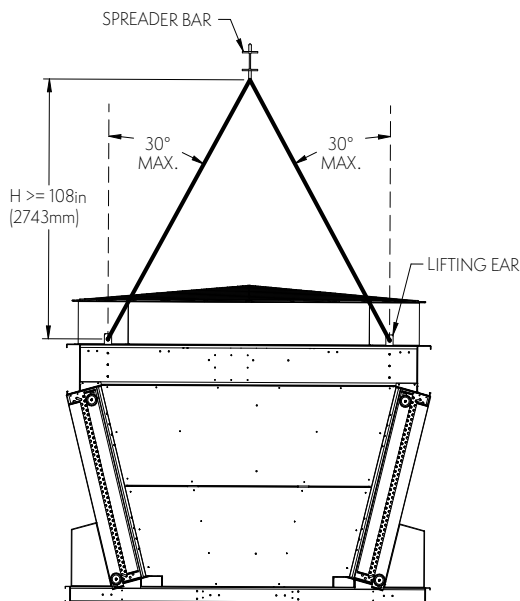
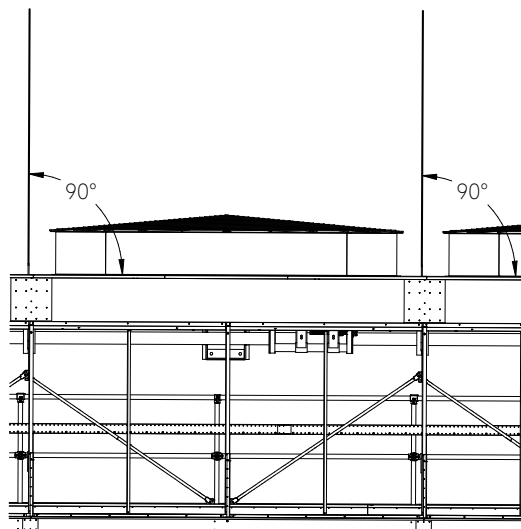

Figure 22.1 – Upper Section End Elevation View
Figure 22.2 – Upper Section Side Elevation View
2. Care must be taken to ensure that the 'H' dimension for the crane lift is greater than or equal to 9' (2.7m) from the fan deck as shown in Figure 22.1. When viewed from the side, the lifting angle must **ALWAYS** be 90° (perpendicular) to the fan deck of the unit, see Figure 22.2. The centerline distance between the upper section lifting ears on the end elevation view is 9' 1-7/8" (2790mm).